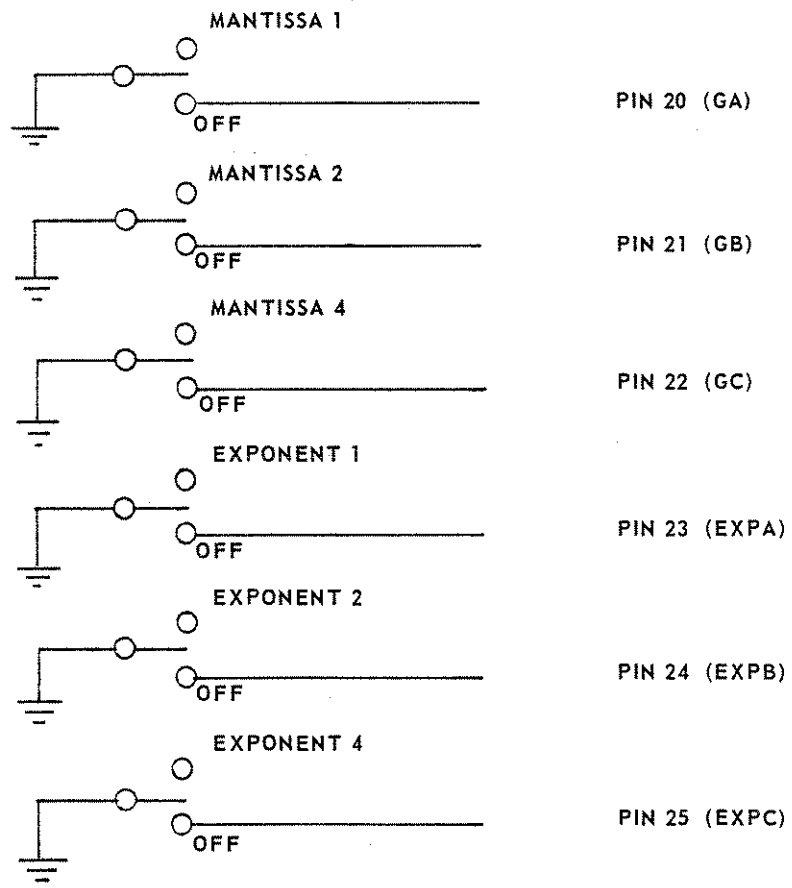

FIGURE 1.3.3 GAIN INPUT SWITCHES
- b. Connect switches to the GAIN CONTROL INPUTS (PINS 20, 21, 22, 23, 24, 25) per Figure 1.3.3 or use an equivalent circuit.